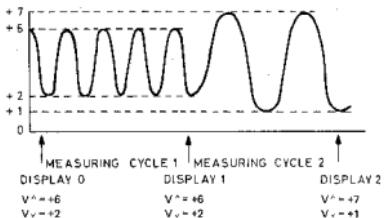

Fig. 18. V^+ and V_v measurement in INT START mode.
- Internal starting of measurements (INT START, fig. 18).